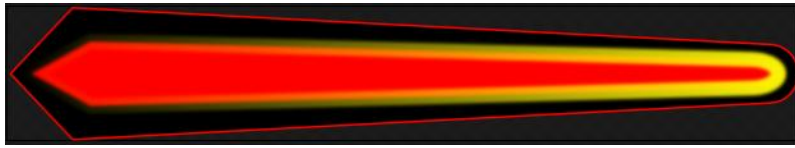

Figure 6-5. WideNeedle shape
**WideNeedle.** This shape has three colour setters DialColor1, DialColor2, DialColor3 to create an interesting effect. See Figure 6-5.